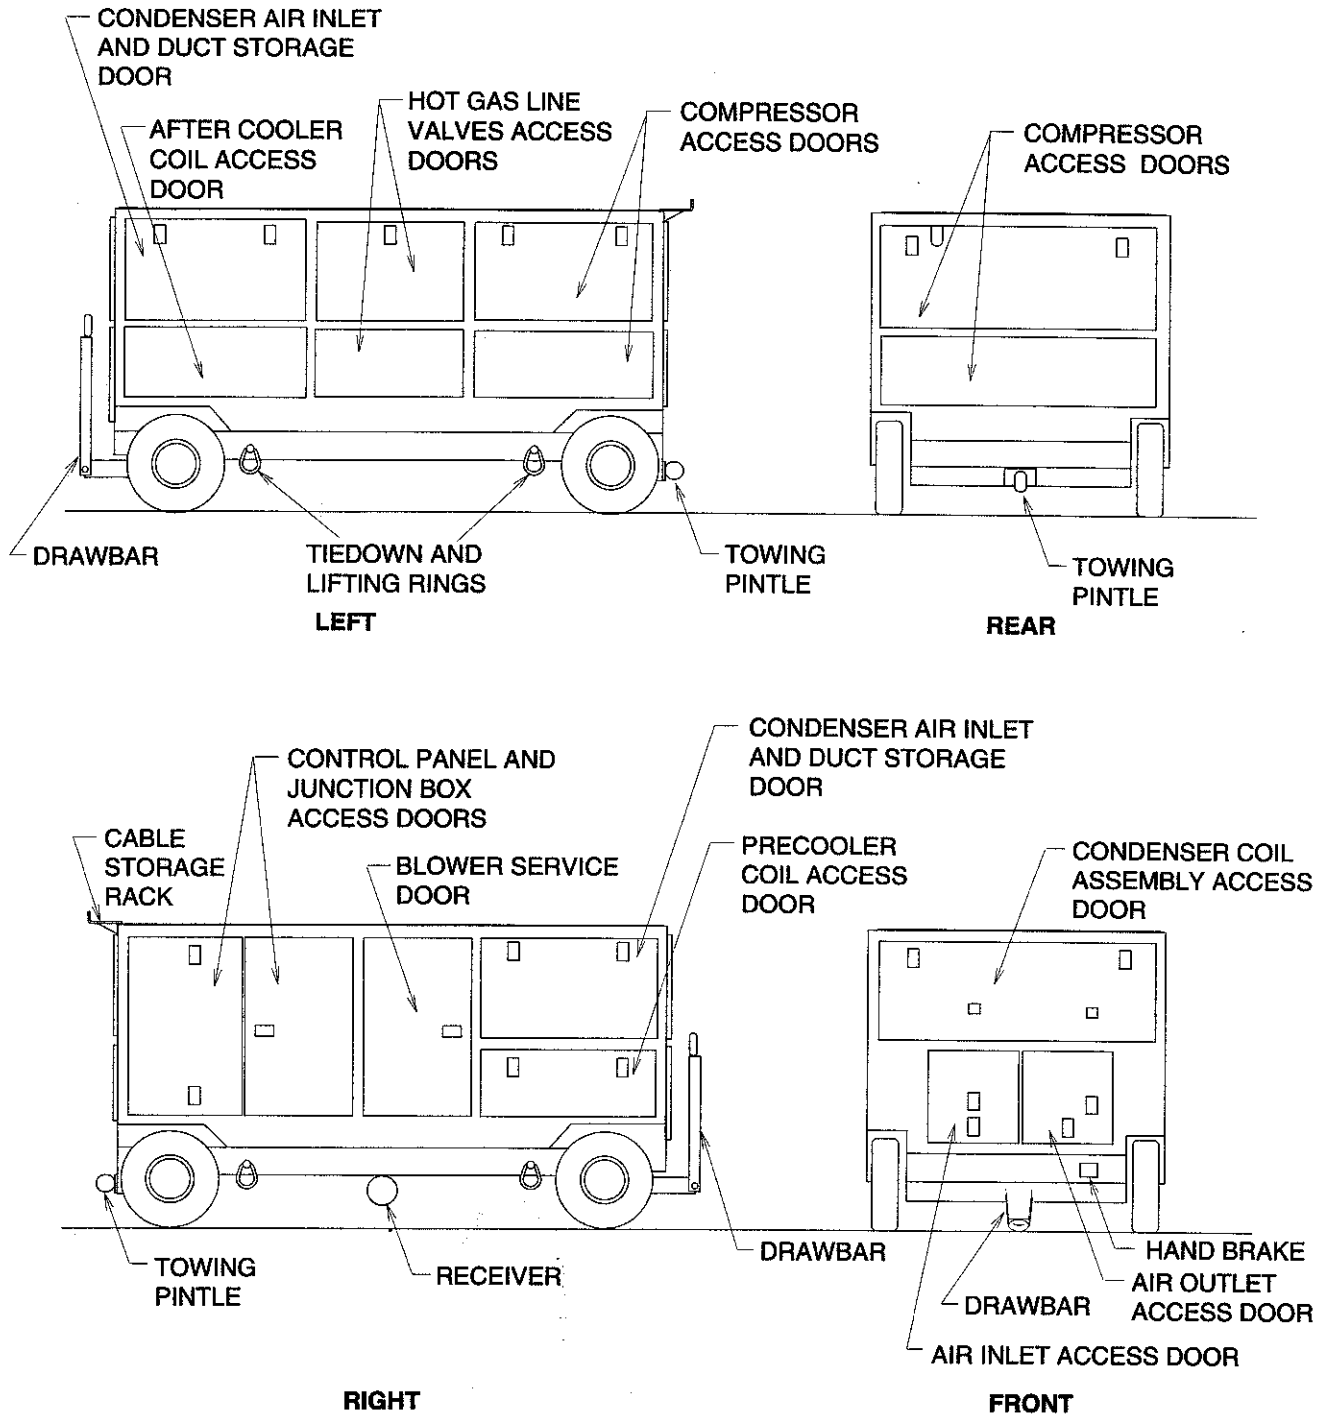
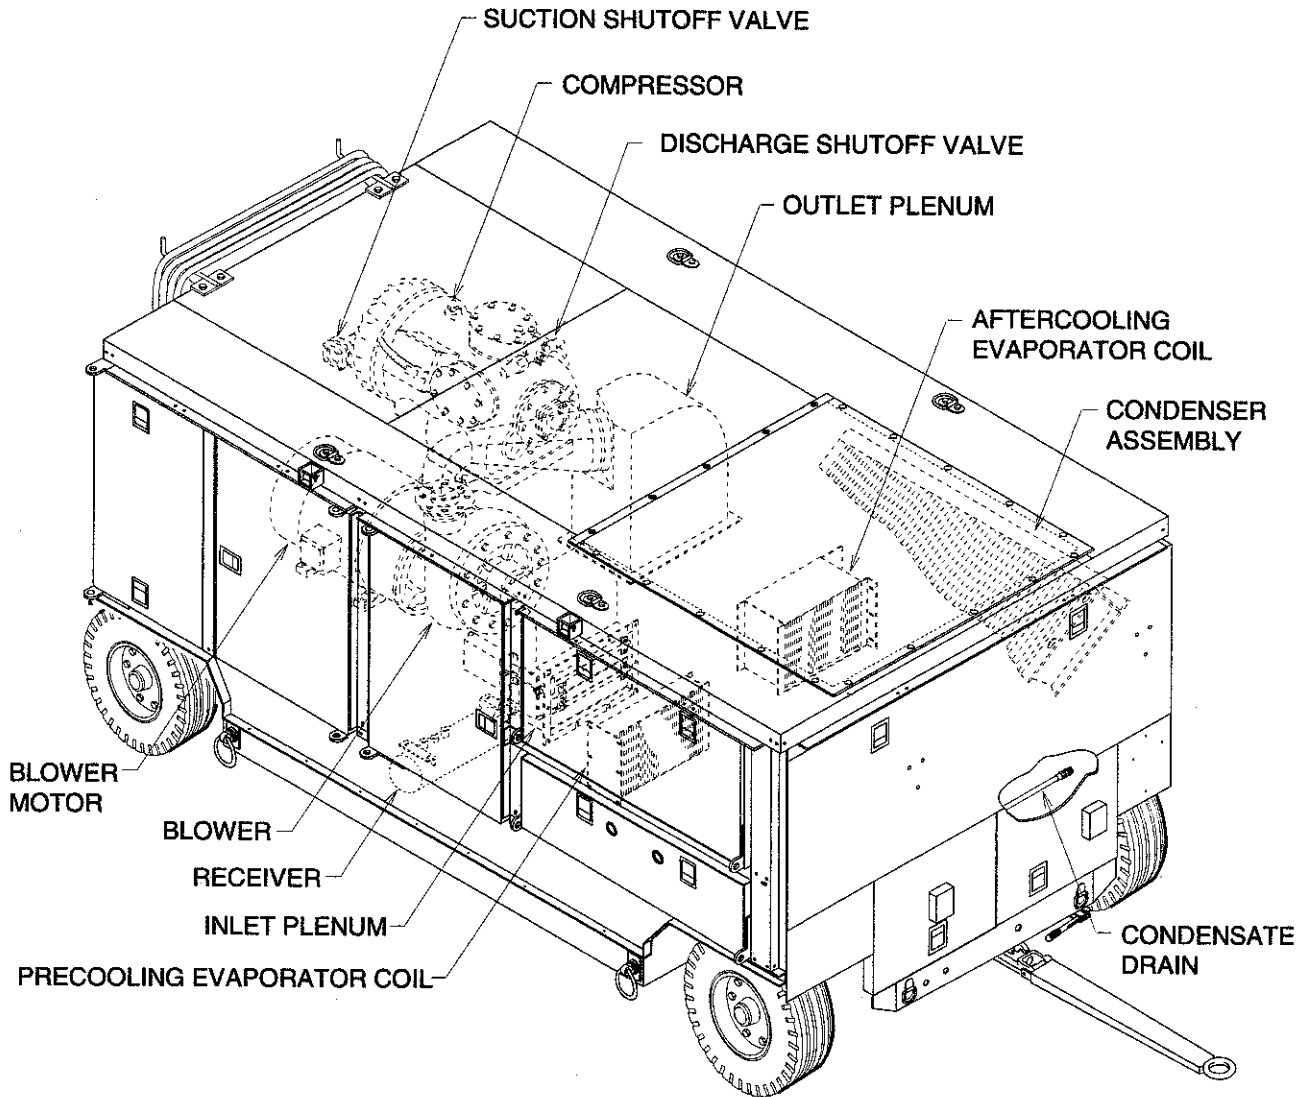

Figure 1-1. Air Conditioner
Figure 3-1. Air Conditioner
1-8. As illustrated in fig. 1-1, the air conditioner is completely contained in a unitary enclosure. Power on, off, and airflow are accessible at an external control panel. Refrigeration is produced by a semi-hermetic compressor, condensers, evaporators, and associated controls. An electric fan for condenser cooling and a blower for conditioned air distribution are integrated with the unit. Space is provided for the storage of the unit's power cable.
1-15. EXTERNAL FEATURES. (See fig. 1-1 and 1-2.) Weather tight doors on the air conditioner provide complete access to internal controls, accessories and serviceable parts. As indicated by stencilled instructions, some of the doors must be open during operation to provide unimpeded airflow. All access doors are equipped with flush type latches.
1-17. A drawbar (fig. 1-1) is provided for towing. The air conditioner may be towed as fast as 20 mph (32.2 km/hr). A pintle on the rear of the chassis allows an additional air conditioner to be coupled to the first one. A hand operated parking brake keeps the air conditioner from moving during operation.
a. Open the compressor service door (see fig. 1-1). Remove the valve caps, and open the suction shutoff valve and discharge shutoff valve (fig. 3-1) by turning the stems fully counterclockwise, then turn back in approximately two turns. Reinstall valve caps and close the service doors.
b. Open the blower service door (fig. 1-1). Remove the caps and open the two shutoff valves located on the receiver. Turn the valves fully counterclockwise to open. Replace the caps.
d. Open the compressor service door (see fig. 1-1). Remove the valve caps and open compressor oil safety switch valves by turning the stems fully counterclockwise. Replace the valve caps.